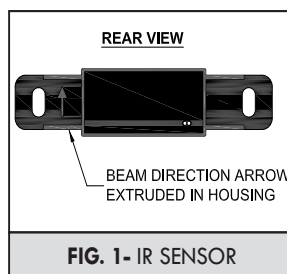

FIG. 1- IR SENSOR
- 2) Remove top cover to expose sensors (**SEE FIG. 1**)